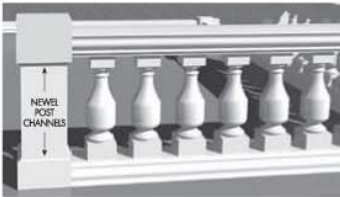

FIGURE 7B
- C) Position a BALUSTER into each predrilled hole in the BALUSTER BOTTOM RAIL assembly. Align and cap off with predrilled BALUSTER TOP RAIL assembly (FIG. 7B).